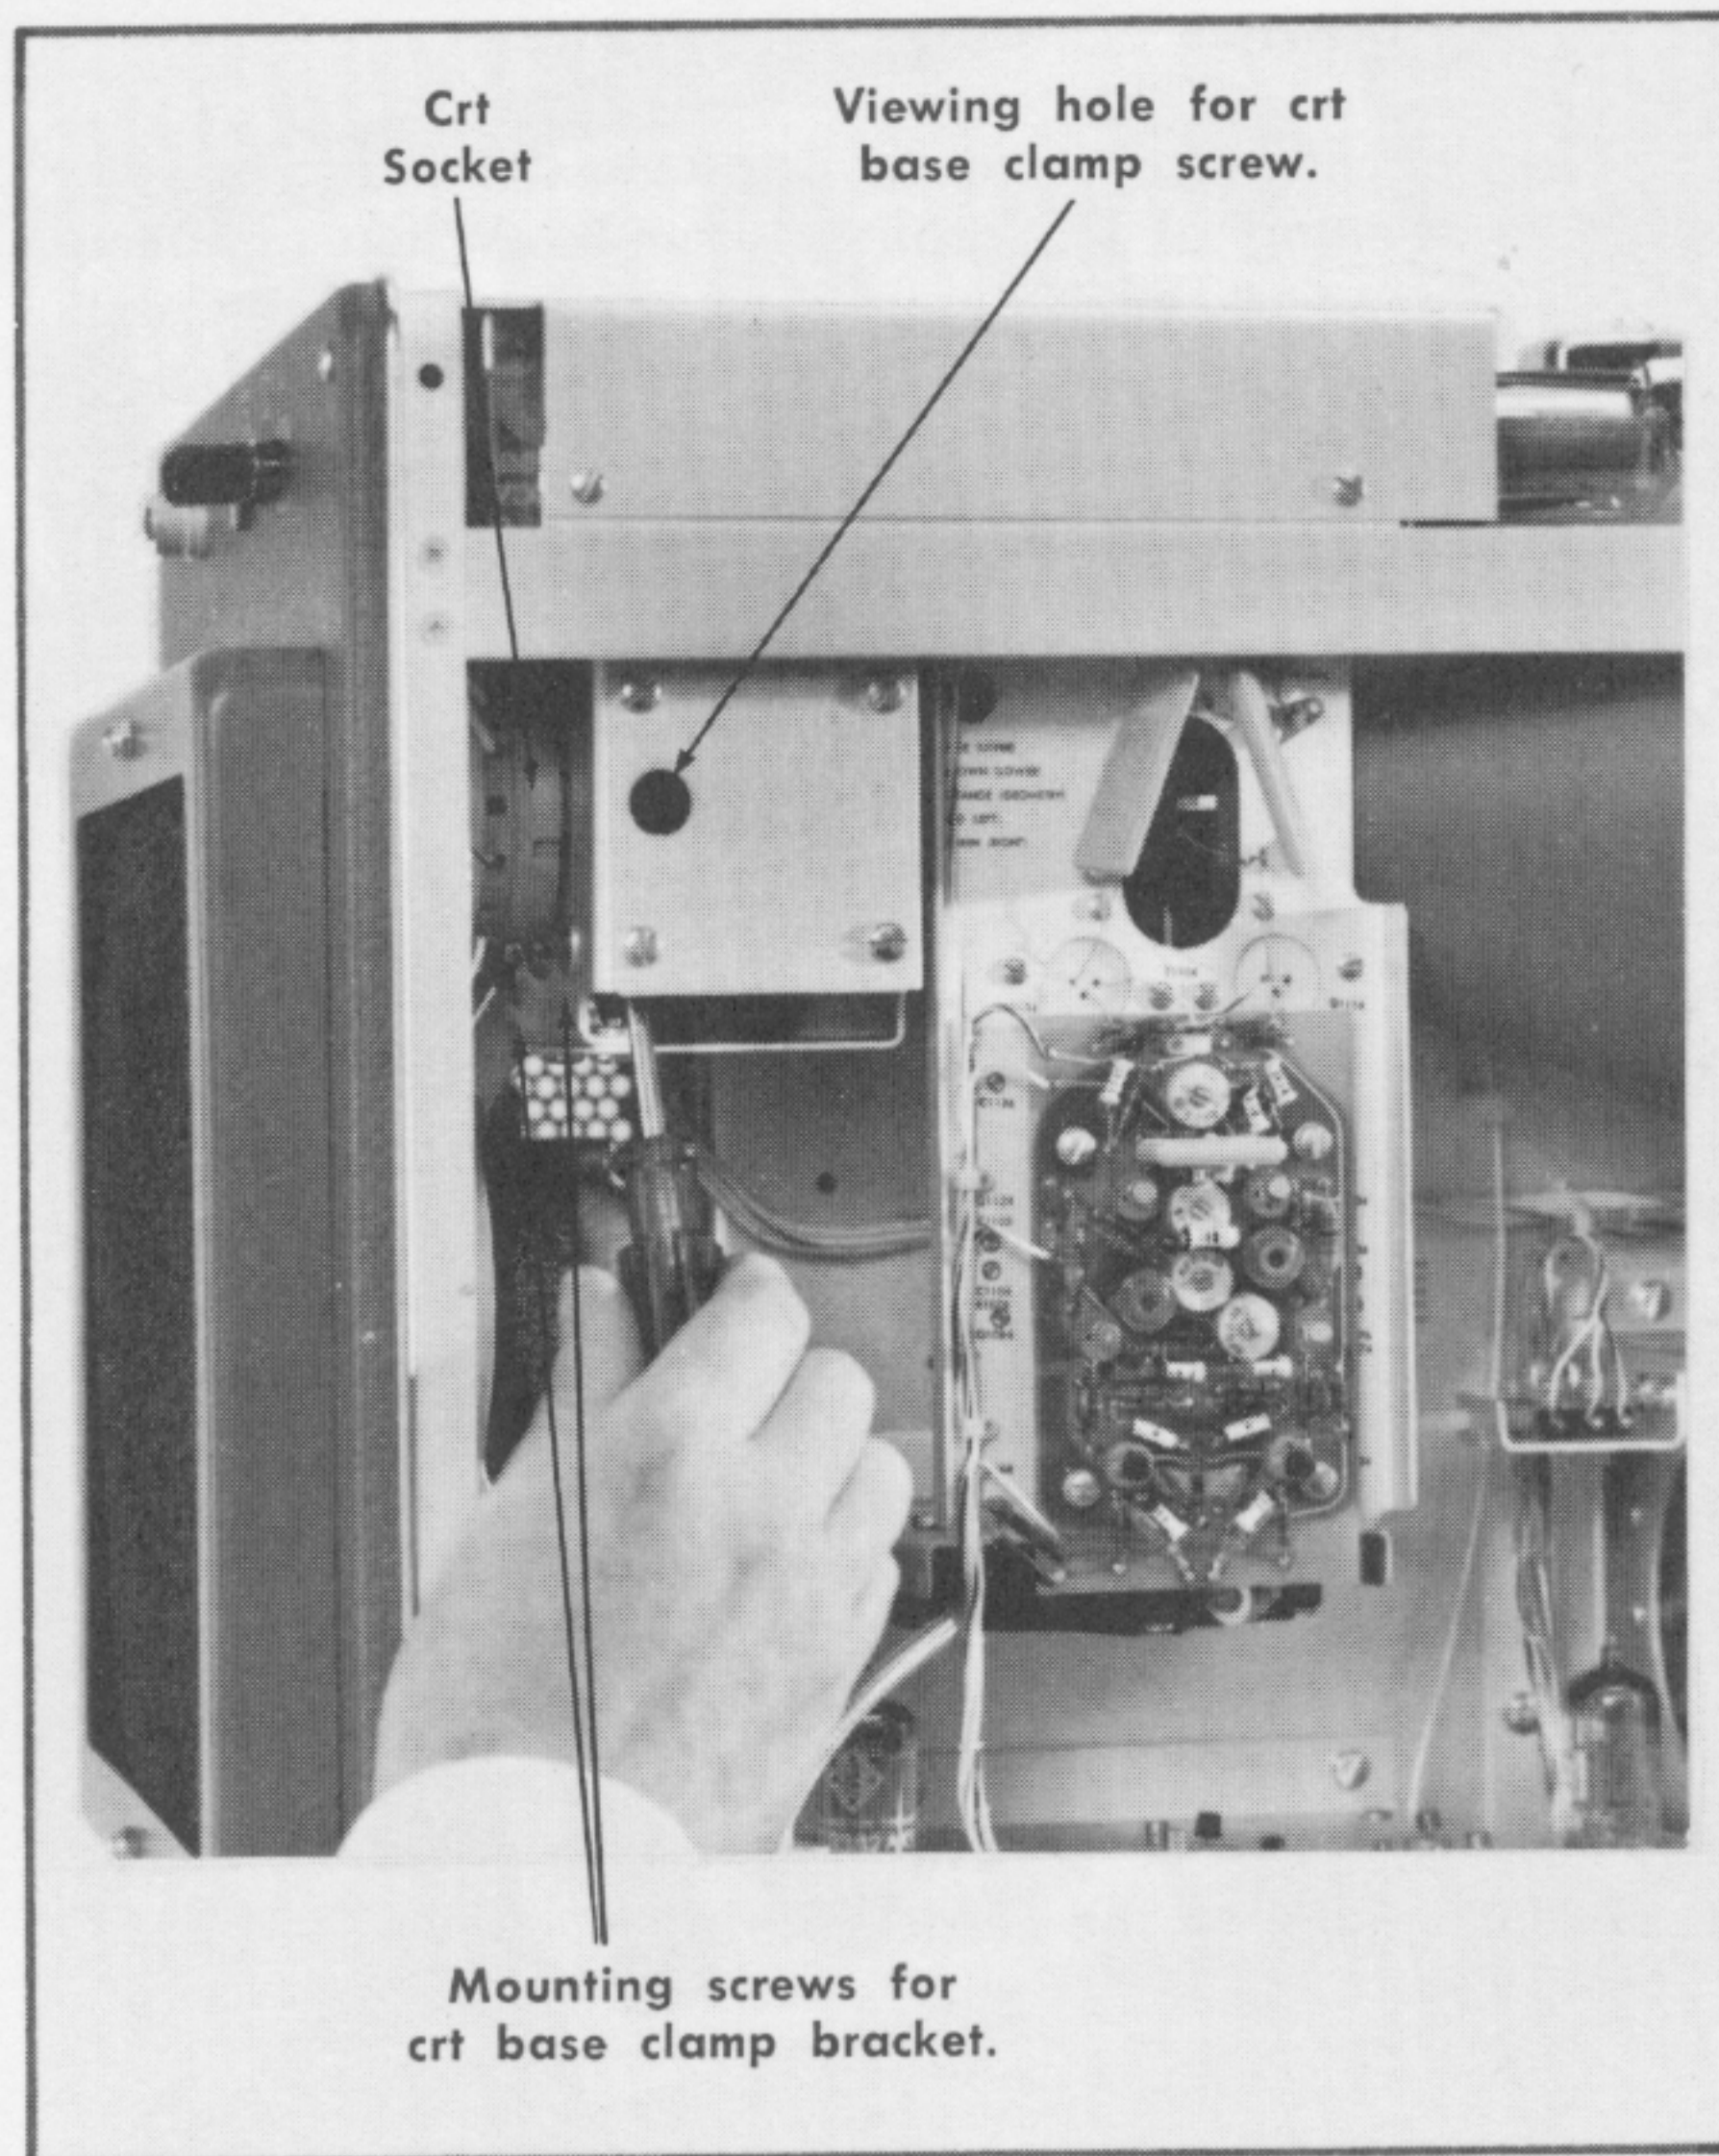

Fig. 4-3. Loosening the crt base clamp.
4. Using a Phillips screwdriver, loosen the crt base clamp (see Fig. 4-3).
5. With your left hand, wiggle the crt socket (see Fig. 4-3) to ensure that the base of the crt is loose in the base clamp.
If the crt face is not parallel with the front of the oscilloscope, use a $\frac{7}{64}$ " hexagonal wrench to loosen the two mounting screws that fasten the base clamp to its mounting bracket (see Fig. 4-3). The base clamp and crt base may now be removed radially to align the face of the crt parallel with the front of the oscilloscope.